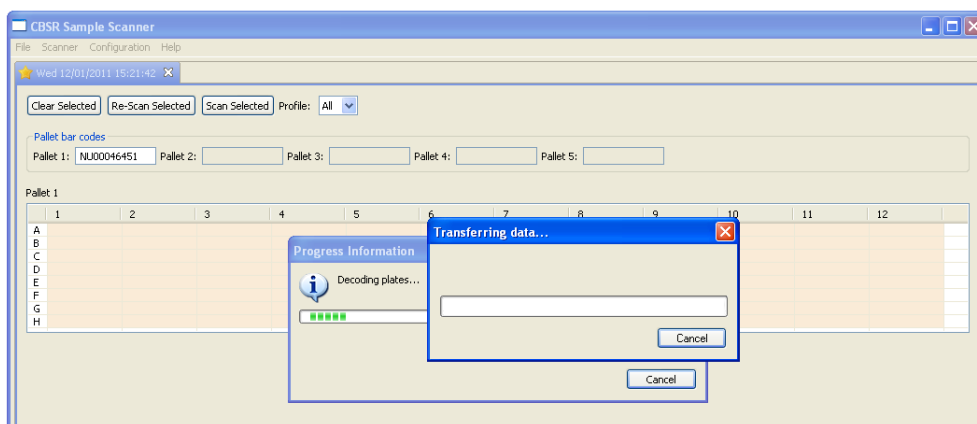

Figure 3.2: Progress dialog boxes shown while scanning and decoding a pallet.
- The scanning and decoding progress dialogs will be displayed as shown in figure 3.2.